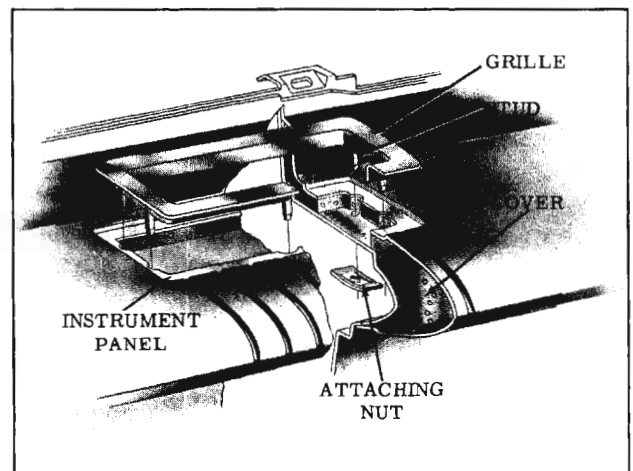

Fig. 16-223 Radio Speaker Grille
1. From underside of instrument panel remove radio speaker grille attaching nuts and remove grille. (Fig. 16-223)